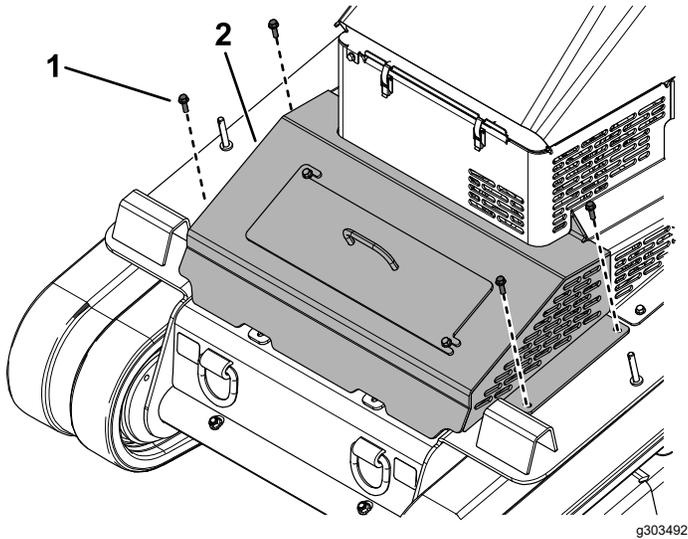

Figure 46
2. Remove the 4 bolts securing the cover assembly to the machine (Figure 46).
1. Bolt (4)
3. Remove the cover assembly (Figure 46).